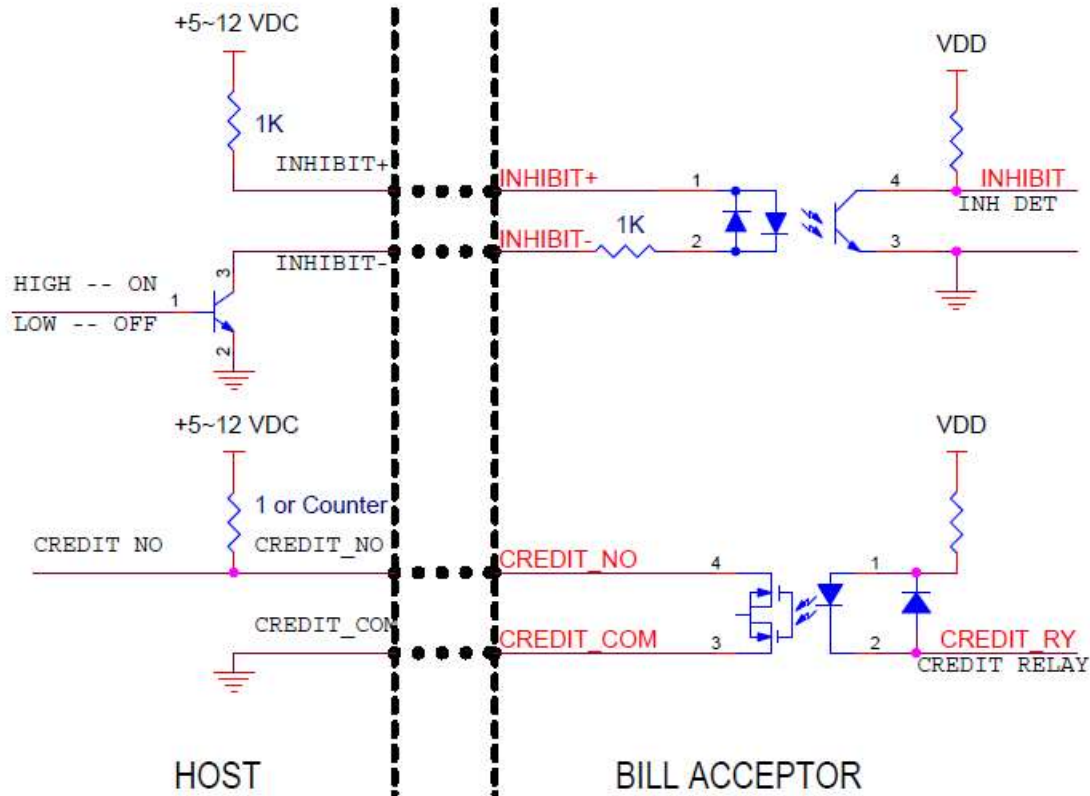

Figure 1.
(1) Pulse Interface connection, See figure 1、 2.